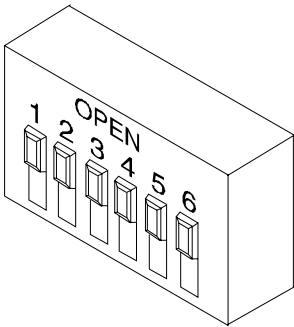

Figure 5-3. Setting for Switch Bank A on the IVP4 (AYC6) Tip/Ring Circuit Card
Switches one (1) through six (6) on Switch Bank A correspond to channels 0-5, respectively, on each Tip/Ring card. Figure 5-3 shows the correct setting for the IVP4 (AYC6B) circuit card.